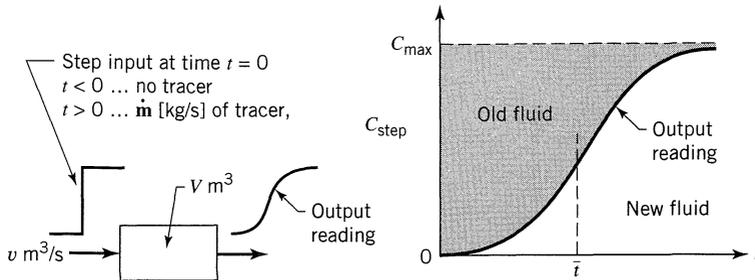

Figure 11.11 Information obtainable from a step tracer experiment.
Consider $v \text{ m}^3/\text{s}$ of fluid flowing through a vessel of volume V . Now at time $t = 0$ switch from ordinary fluid to fluid with tracer of concentration $C_{\text{max}} = \left[\frac{\text{kg or mol}}{\text{m}^3} \right]$, and measure the outlet tracer concentration C_{step} versus t , as shown in Fig. 11.11.
$$\left(\text{shaded area of Fig. 11.11} \right) = C_{\max} \bar{t} = \frac{\dot{m}V}{v^2} \left[\frac{\text{kg} \cdot \text{s}^2}{\text{m}^3} \right] \quad (6)$$